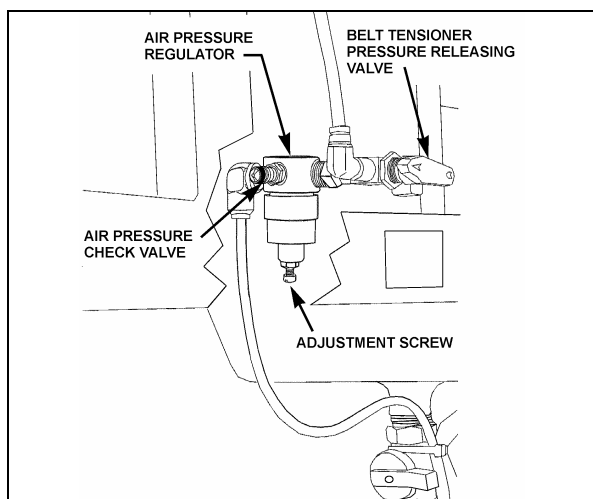

FIGURE 8: BELT TENSIONER VALVE
4. Locate the A/C compressor belt tensioner pressure releasing valve (Fig. 8). Turn pressure releasing valve handle counterclockwise in order to release pressure in belt-tensioner air bellows and loosen belts. Remove the belts.